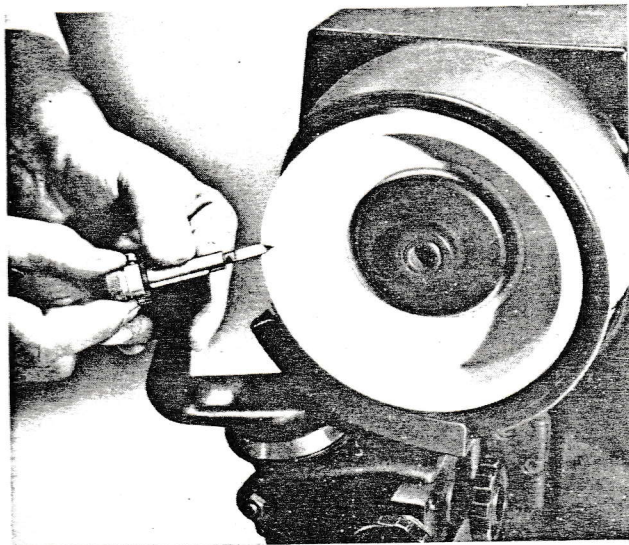

FIGURE 10
- (3) Hold the assembly with the left-hand as shown in Figure 10, keeping the cutter holder firmly held in the 'Vee' section with the cam resting against the stop pin.